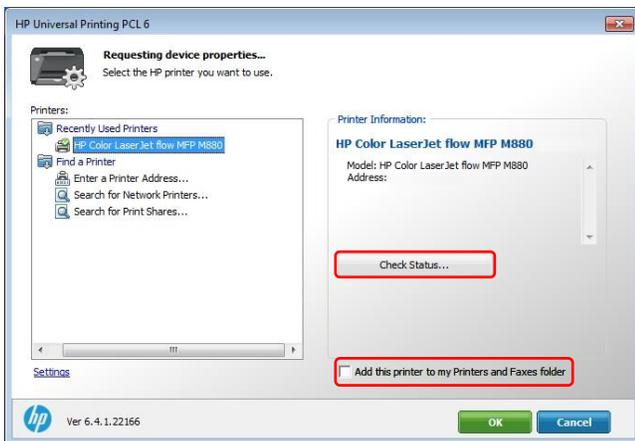

Figure 7-7 HP UPD Dynamic mode dialog box
6. To add the currently selected printer to the Printers folder as a traditional mode print queue, select the **Add this printer to my Printers and Faxes folder** option (see Figure 7-7 HP UPD Dynamic mode dialog box).
6. To verify whether this printer contains the necessary supplies for the print job before printing, click the **Check Status** button as shown in figure 7-7.
7. To add a recently used printer to the **Printers** folder, select the **Add this printer to my Printers folder** option as shown in figure 7-7.
7. To add a recently used printer to the Printers folder, select the **Add this printer to my Printers folder option** as shown in figure 7-7.